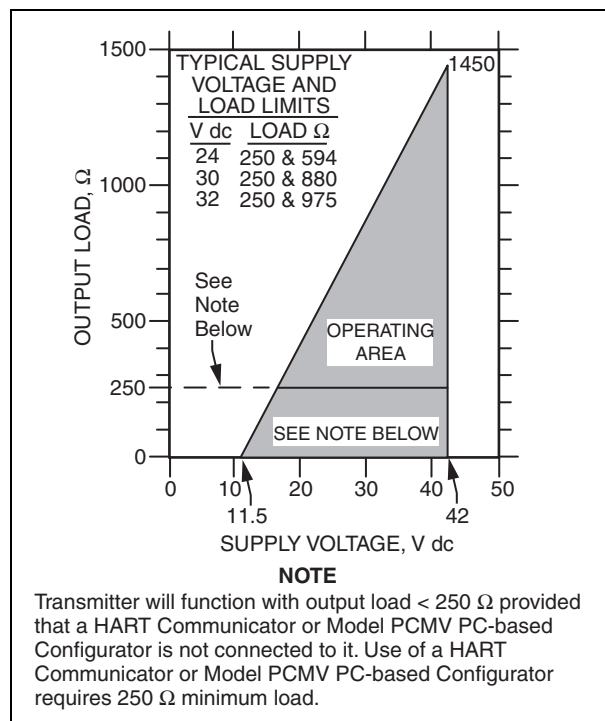

Figure 17. 4 to 20 mA Output, Supply Voltage vs. Output Load
- ▶ **4 to 20 mA:** Minimum supply voltage shown in Figure 17 is 11.5 V dc. This can be reduced to 11 V dc by using a plug-in jumper across the test receptacles in the field wiring compartment terminal block. Invensys offers an optional plug-in shorting bar (SB-11) for this purpose.
Output changes less than 0.005% of span for each 1 V change within the specified supply voltage requirements. See Figure 17.